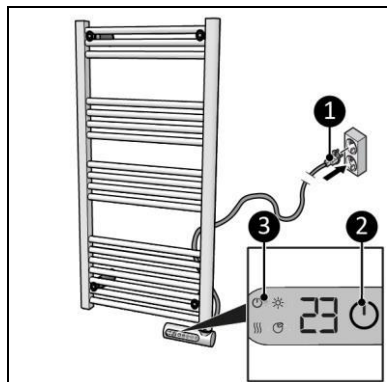

Figure 10
2. Place the power plug (Figure 10, pos. 1) into a wall socket that is easily accessible. Use a wall socket with a minimum power of 800 Watt.
3. The ON/OFF indicator will light up (Figure 10, pos. 3).
1. Press the ON/OFF button to turn on the device (Figure 10, pos. 2). The display will show the set temperature.